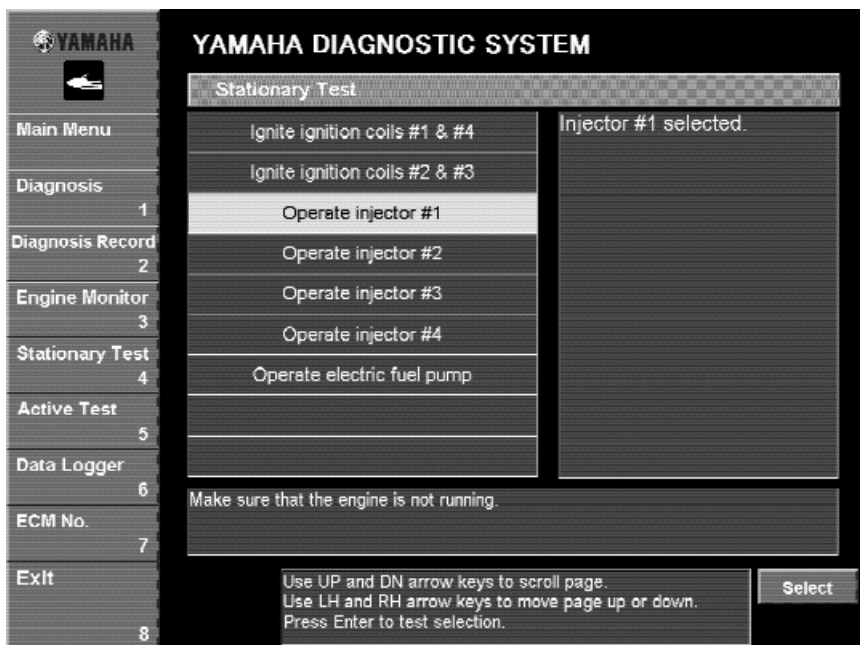

Fig. 48
1. Select the test that you wish to perform by either clicking it or pressing the up or down arrow keys on your keyboard (Fig. 48).
2. Select the cylinder to be tested, and then click the **Select** button or press the Enter key on your keyboard (Fig. 48).